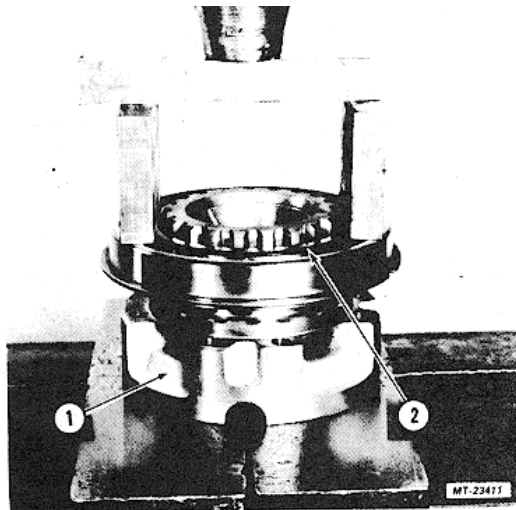

Fig. 38. Pressing Rear Bearing On Inter-Axle Diff Case - Rear Half
2. Press front and rear bearings onto case halves using suitable adapters and support blocks for inner bearing races (Figs. 38 and 39). When pressing front bearing on to case be certain large radius on inner race of bearing is next to case.